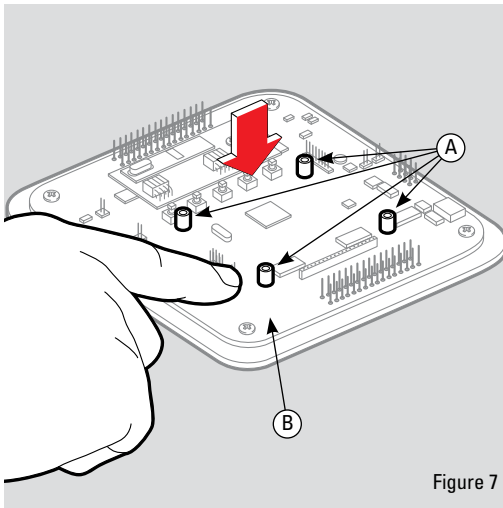

Figure 7
Place the four clear spacers (A) on the board (B) as shown in figure 7 to the left.